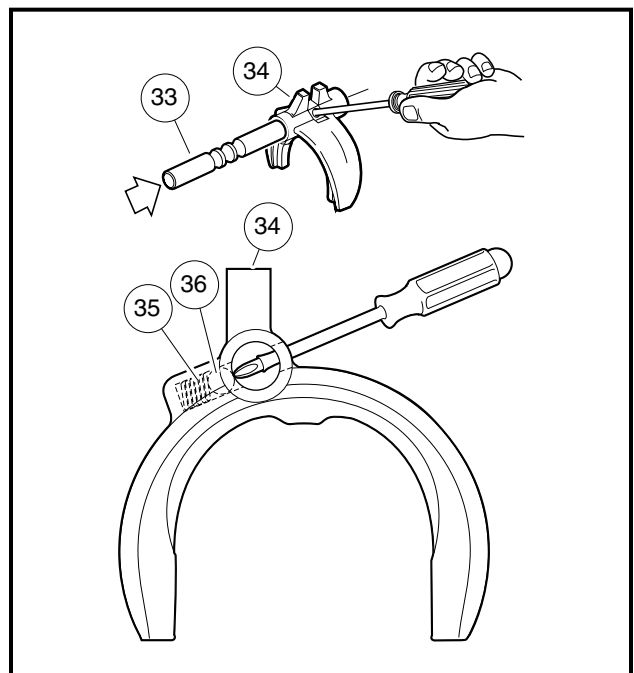

Figure 7-34 Insert Shift Rod Past Ball
2. Use a no. 1 tip phillips screwdriver to press the ball and spring while inserting shift rod (33) into the shifter fork (34) (**Figure 7-34, Page 7-19**). Remove screwdriver when the shift rod is inserted far enough for it to depress the ball and spring, then continue to insert rod until the ball is positioned in the middle detent on the rod.